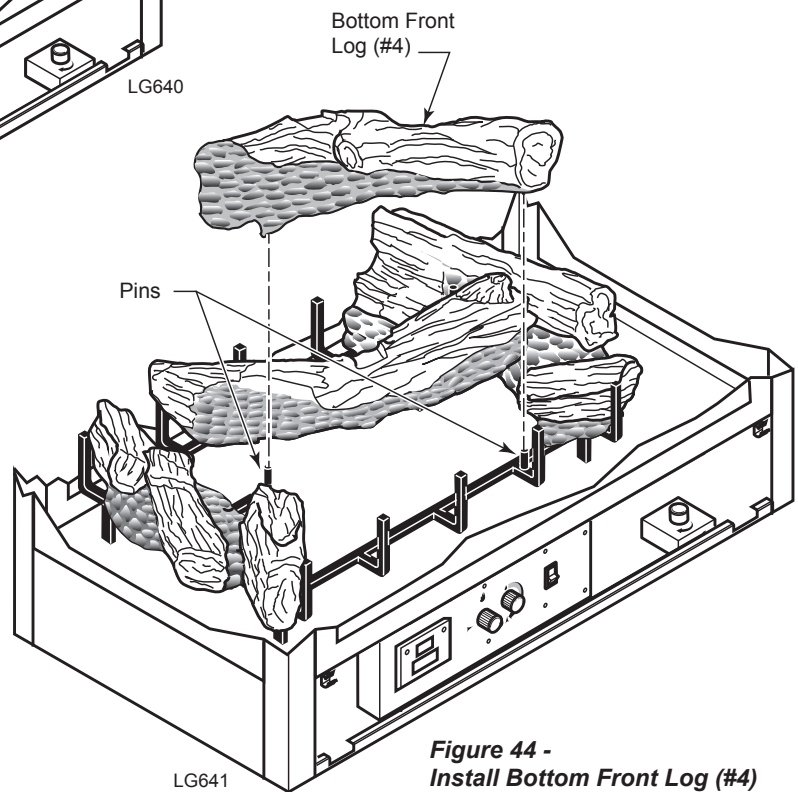

Figure 44 -
6. Line up pin holes on bottom front log (#4) with pins on grate. *Figure 44*